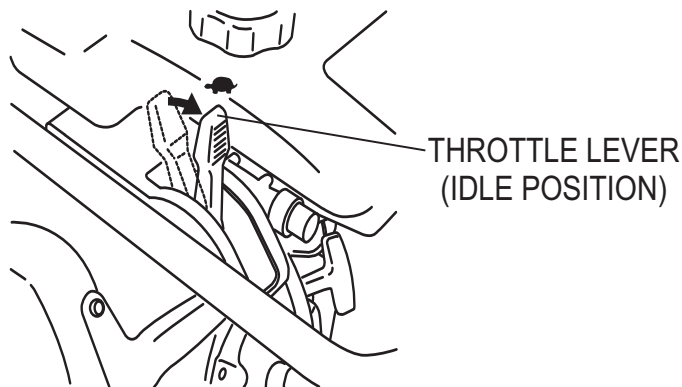

Figure 5-A. Throttle Lever (Idle Position)
1. Slide the throttle lever from the stop to the idle position (🐷) (Figure 5). This opens the fuel cock and the engine electrical circuit is turned on automatically.
2. **Units with Carburetor Primer System:** Push the primer pump bulb four (4) times to deliver fuel to the carburetor (Figure 5-B).